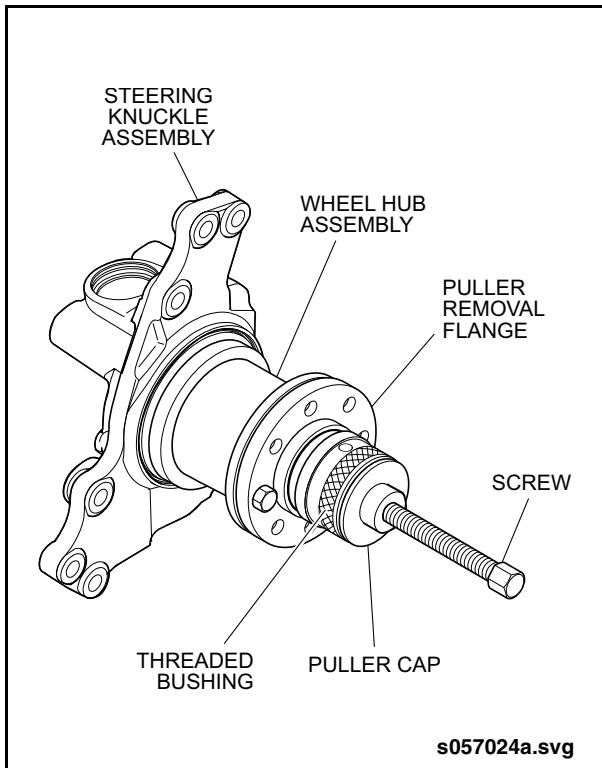

Fig. 1-15: Wheel Hub Removal
10. Install threaded bushing, puller cap, and spindle screw. (Items 36, 38, & 40 from special tools list) into the puller removal flange. See "Fig. 1-15: Wheel Hub Removal" on page 15.